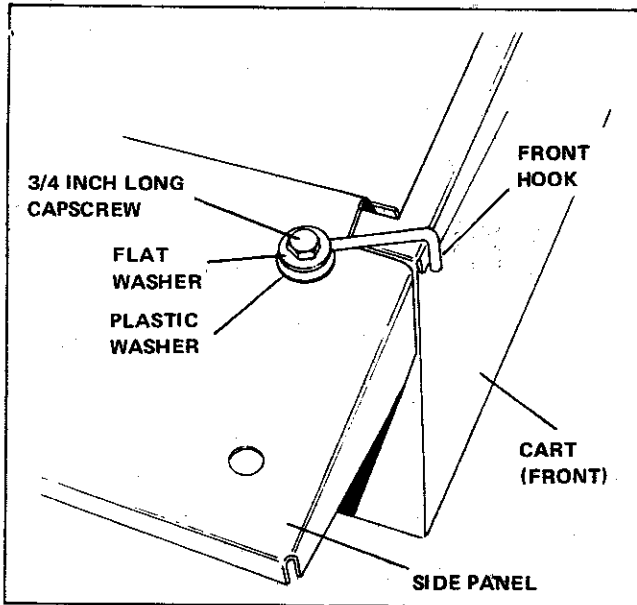

Figure 20. Installing Front Hooks
3. Attach the front hooks to the side panels as shown in figure 20, using a 5/16 x 3/4 inch capscrew, flat washers, plastic washer, and locknut. Place a flat metal washer above the front hook on the capscrew and a plastic washer below the front hook. Insert the capscrew through the side panel, and place another 5/16 flat washer and locknut on the capscrew. Position the front hook as shown in figure 11 and tighten the locknut.